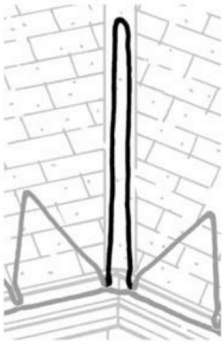

Figure 6. Cable pattern in a valley
• Pattern for valleys: If a valley exists in a problem area of your roof, you must route cable up and back down the valley a minimum of 3 feet, as shown in Figure 6. Extend the cable higher if the warm area of your roof is higher.